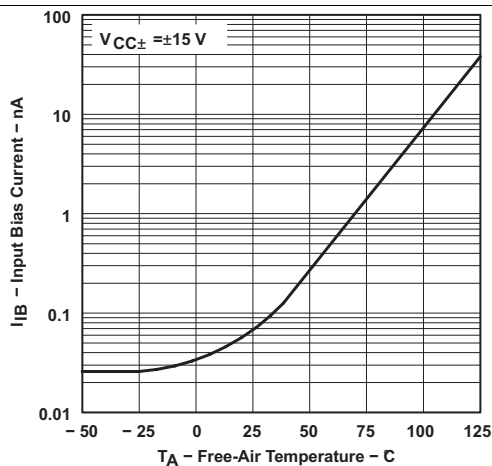

**Figure 13. Input Bias Current
(1) All characteristics are measured under open-loop conditions, with zero common-mode input voltage, unless otherwise specified.
(2) Input bias currents of a FET-input operational amplifier are normal junction reverse currents, which are temperature sensitive, as shown in Figure 13. Pulse techniques must be used that maintain the junction temperatures as close to the ambient temperature as possible.